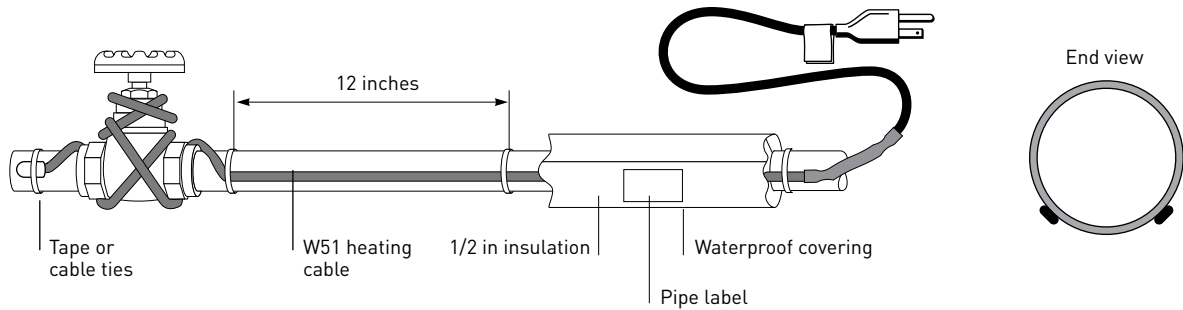
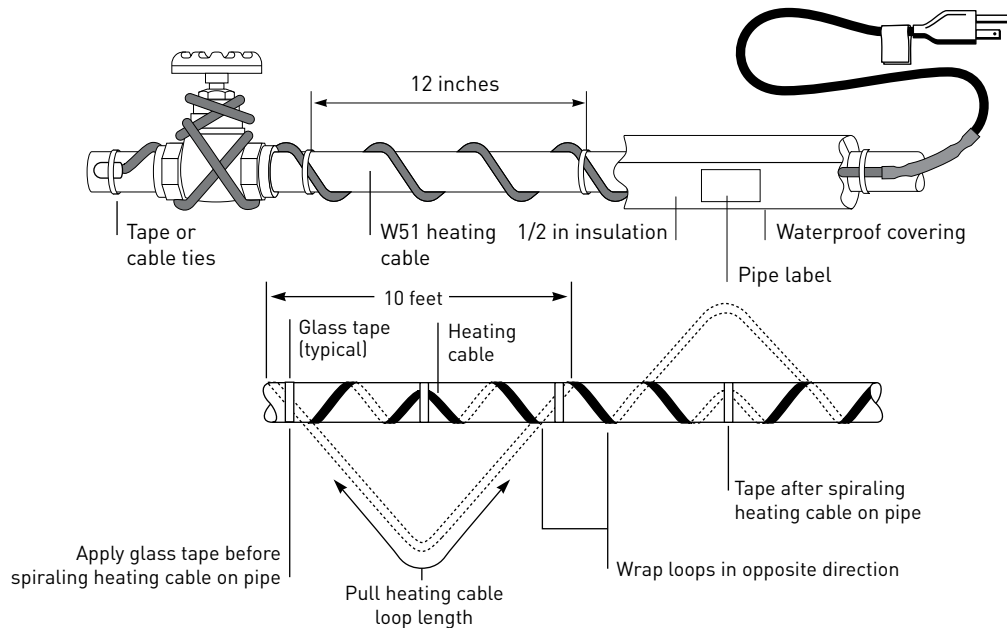

Figure 1. Straight-traced installation
Figure 2. Spiral-traced installation
- Install heating cable, using straight tracing Figure 1, or spiraling Figure 2.
- Be sure to install the additional heating cable required for valves, flanges, etc. as shown in Figures 1 and 2.
- When the design calls for spiraling, begin by suspending a loop every 10 feet as shown in Figure 2. To determine the loop length, divide the Gardian length by your pipe length and multiply by 10. For example, if you are using a 50 ft Gardian on a 40 foot pipe, leave a 12-foot loop of heating cable at every 10-foot section of pipe. Grasp the loop in its center and wrap it around the pipe. Even out the distance between spirals by sliding the wraps along the pipe. Use glass tape to secure the center of the loop to the pipe.